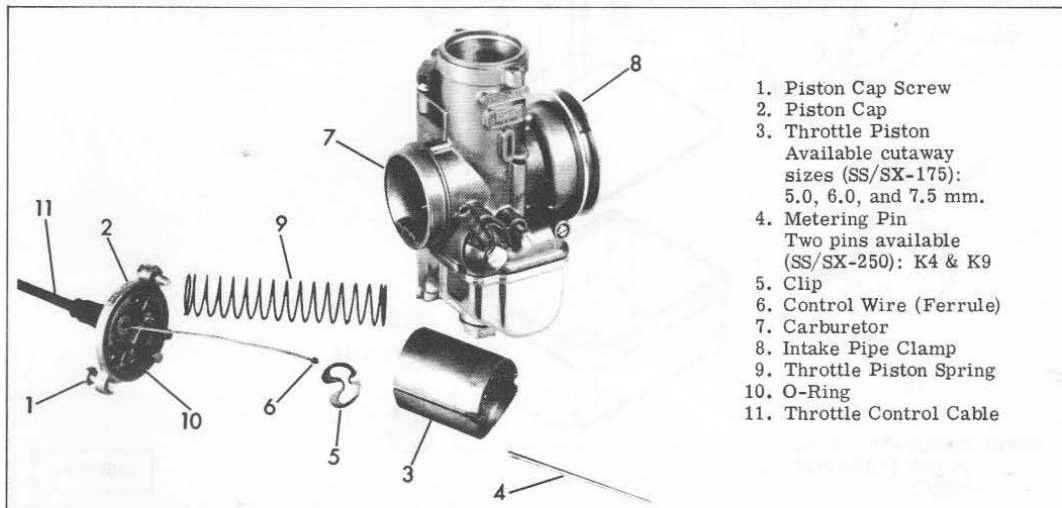

Figure 3.30. Partial Disassembly of Carburetor
Refer to Figure 3.30. Unscrew two screws (1) that retain piston cap. This will allow piston cap (2) to be removed along with throttle piston (3) and associated parts as an assembly.
Referring to Figure 3.30, install metering pin (4) in throttle piston (3) and insert clip (5) in desired groove of metering pin (normally, middle groove is used).